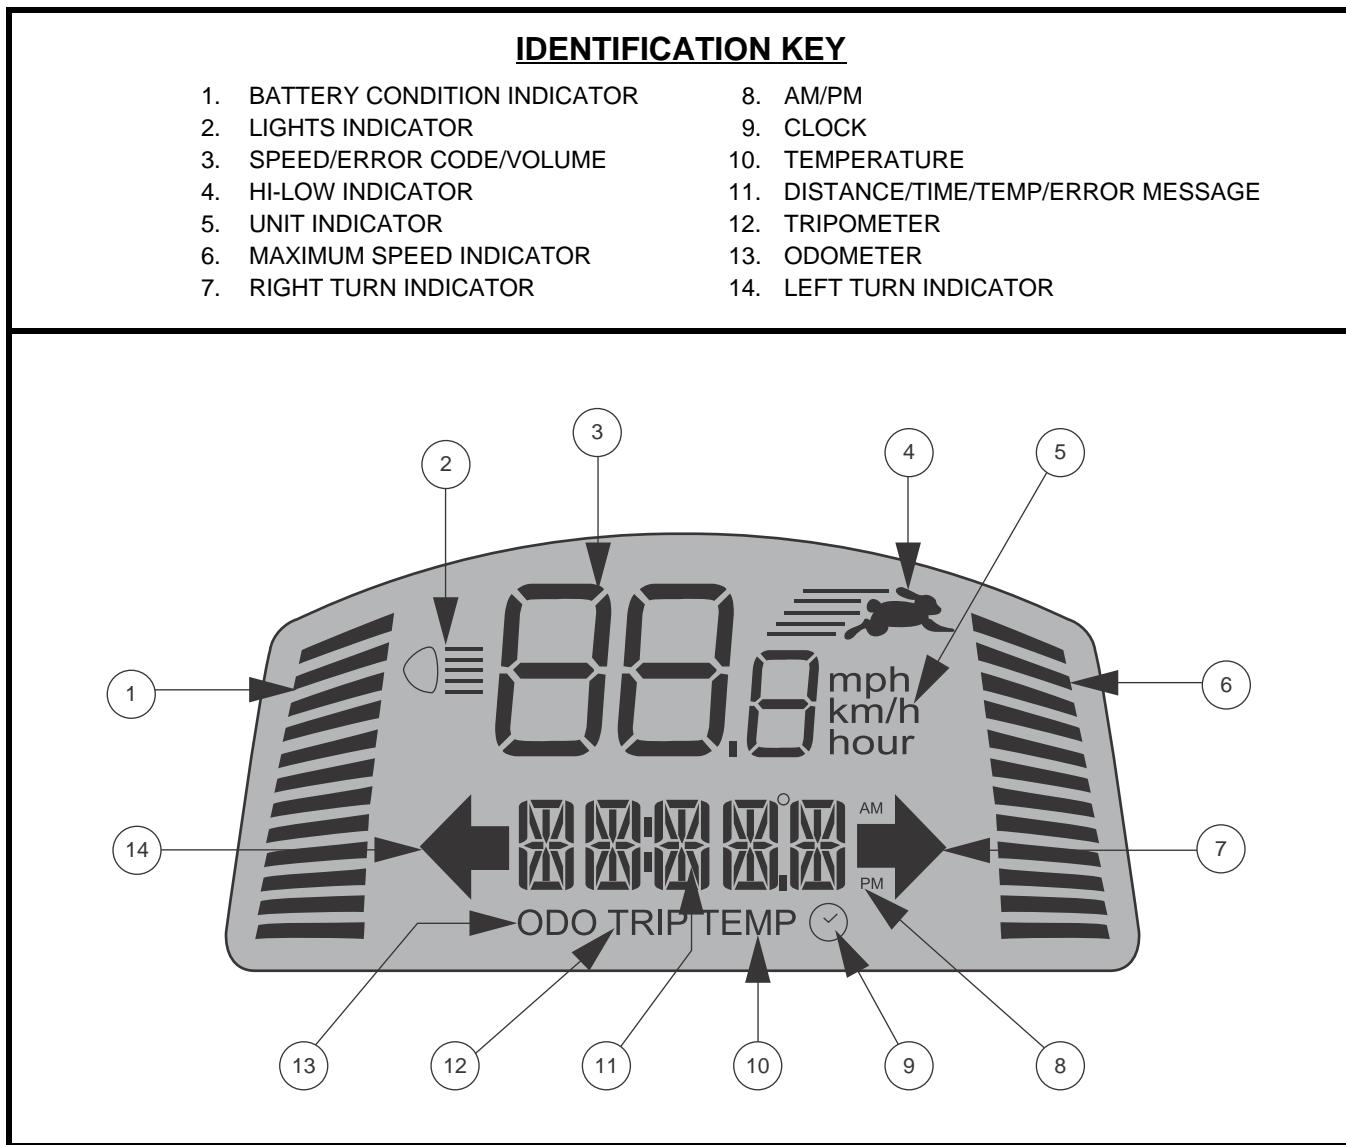

Figure 2. LCD Screen
- Press the **High-Low** button once to set the speed adjustment to high. The High-Low indicator will display on the LCD screen. See **figure 2**. Using this setting in conjunction with the speed adjustment buttons will allow the PMV to achieve speeds up to the maximum preprogrammed speed for the PMV.
These adjustment buttons enable you to pre-select and limit your PMV's speed. This is indicated by the maximum speed indicator on the LCD screen. See **figure 2**.
NOTE: The more bars shown on the maximum speed indicator, the faster your pre-selected maximum speed will be. See **figure 2**.
The LCD control panel offers easily intuited feedback information via the LCD screen. See **figure 2**. The LCD screen is also used during the set-up (activation) of the various control panel settings. See **chart 1**.